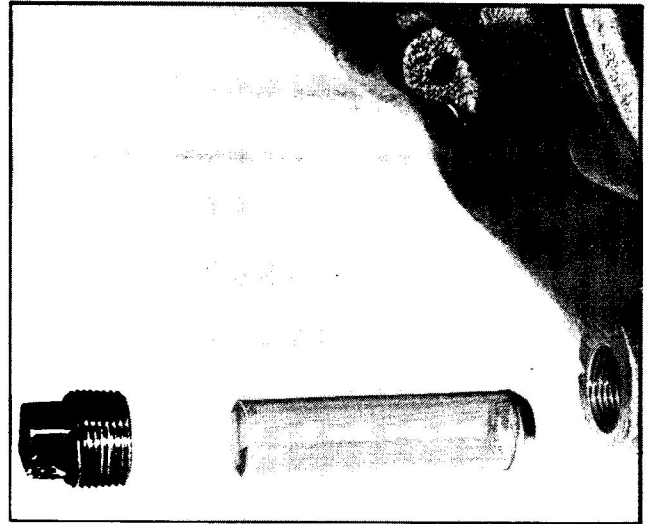

Fig. 12 Remove Drain Plug and Oil Screen
2. Remove all pipe plugs, all fittings, filler plug, drain plug and oil screen, (Fig. 12), and permit fluid to drain from transmission.